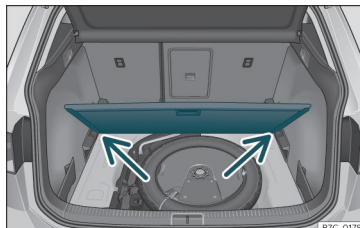

Fig. 115 Variable luggage compartment floor: inclined position.
- Rest the floor on its housings >>> **Fig. 115** (arrows).